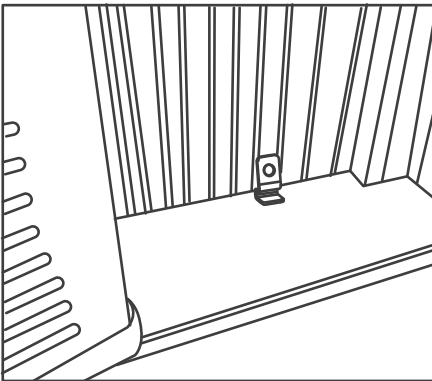
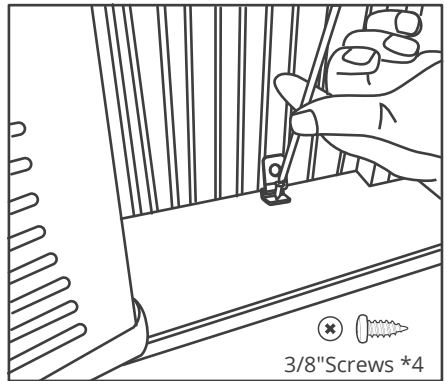

Fig.7
Fig.8
- 4 Place the frame lock between the frame extensions and the window sill as shown (Fig.7). Drive 3/4" (19 mm) locking screws through the frame lock and into the sill (Fig.8).